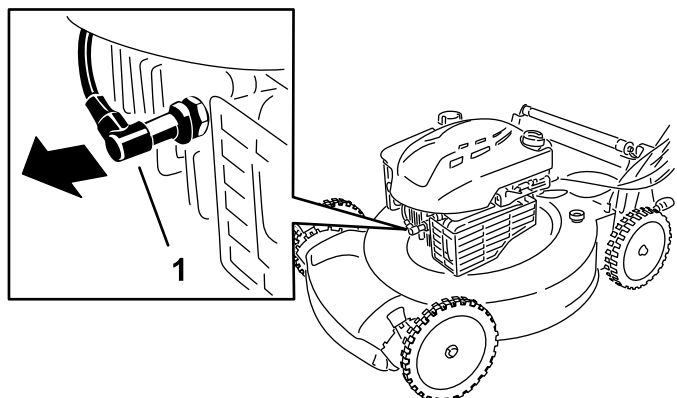

Figure 22
2. Disconnect the spark-plug wire from the spark plug (Figure 22).
2. Disconnect the wire from the spark plug (Figure 22).